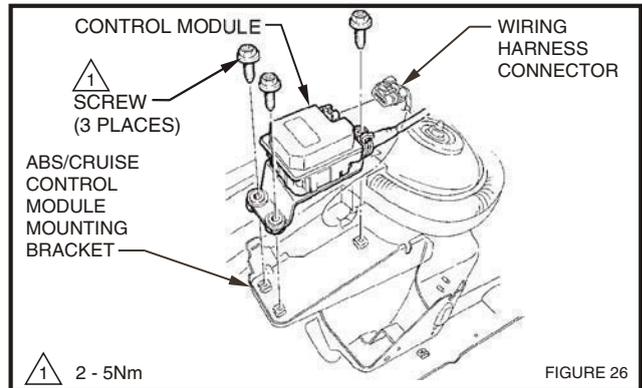

FIGURE 26
60. Install stepper motor to mounting bracket using 3 screws supplied and tighten (2 - 5Nm), refer fig. 26
61. Attach connector from patch harness or existing harness to stepper motor, refer fig.26.